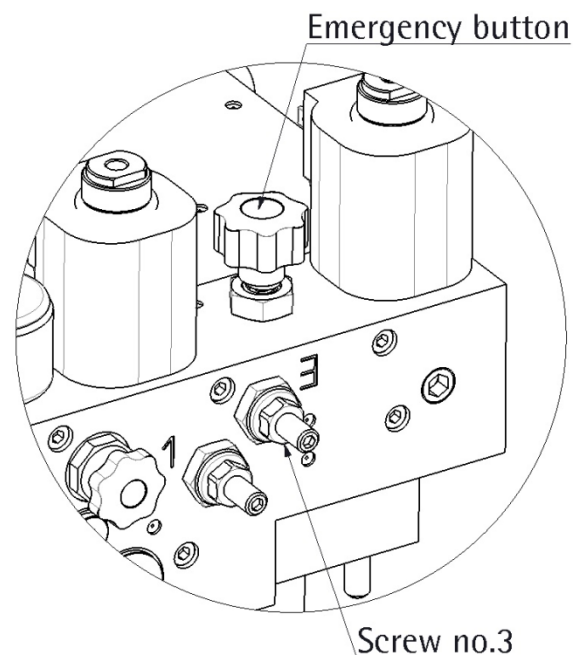

Figure 5
- Adjust the counter-pressure as follows (see Figure. 5):